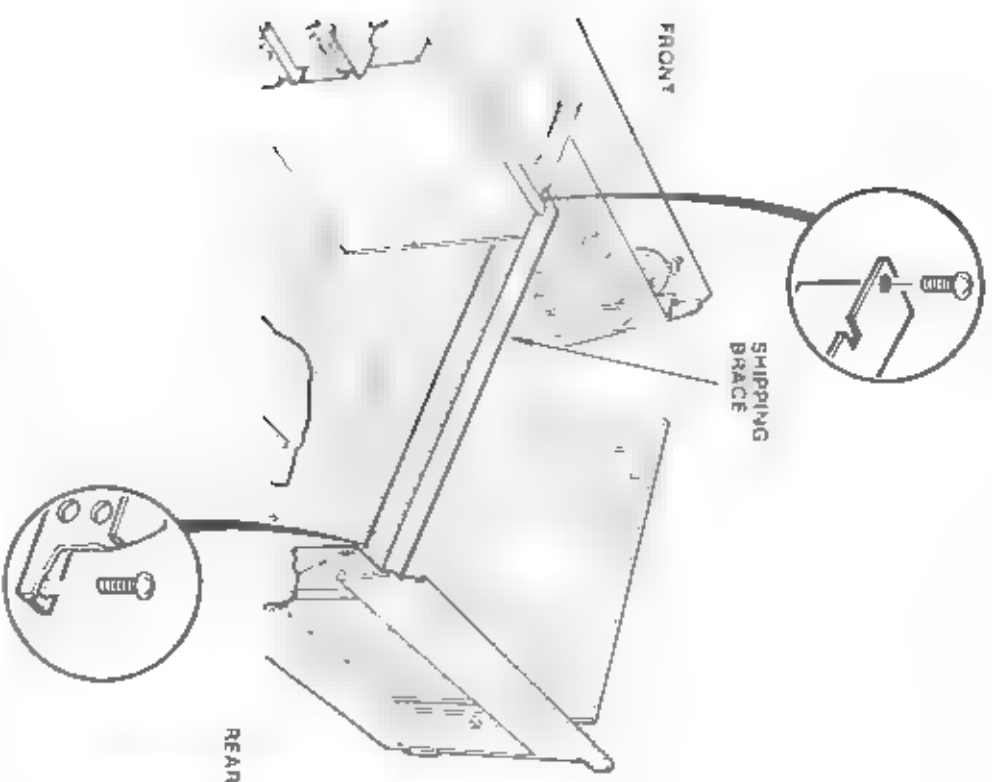

Figure 3-5. Removing the Internal Shipping Brace
- 1 Remove the two screws on the brace and remove the brace (Figure 3-5).